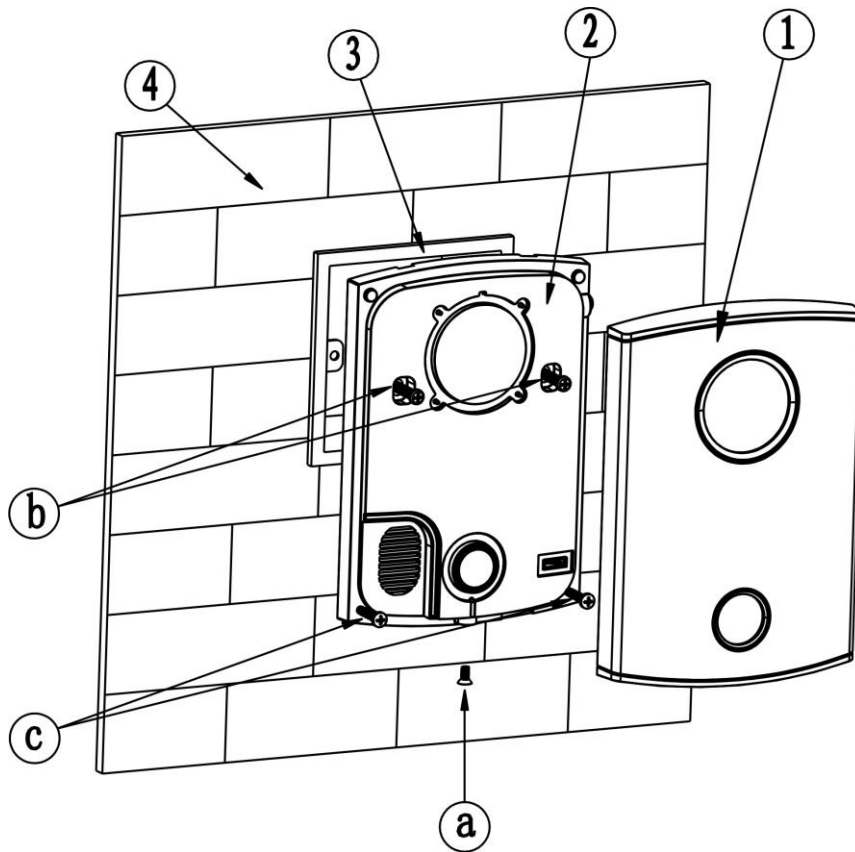

Figure 2- 2 VTO5x00Cx Series
3. After you complete the installation between VTO and holder, use the set screw accompanied as a in Figure 2- 1 VTO5110B/BW to fix the VTO and its holder.
Use the M4 screw accompanied with the VTO to fix holder onto the 86 box (as 3 in Figure 2- 2 VTO5x00Cx Series);
2. B in Figure 2- 2 VTO5x00Cx Series is to strengthen firmness of VTO, use the ST3.0 screw accompanied with VTO to fix the 86 box onto wall after locking the 86 box. (as c in Figure 2- 2 VTO5x00Cx Series);